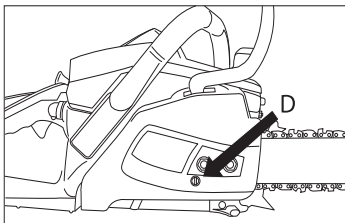

Fig. 11
- Loosen the tire nuts (protective cover with brake shield) and turn the adjusting screw (D) clockwise to tighten the chain. Turn the adjusting screw (D) counterclockwise to decrease chain tension. Make sure the chain is all the way around the bar (fig. 11).